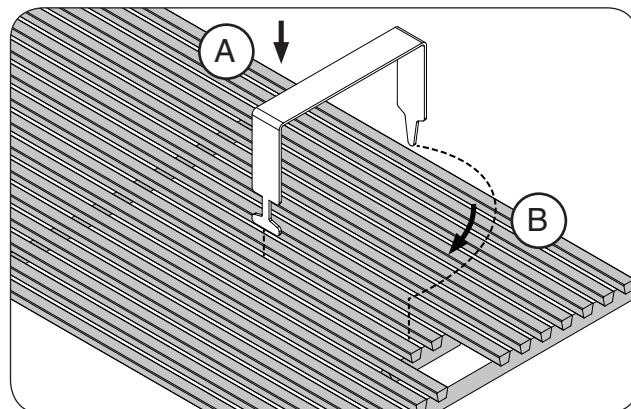

Fig. 22-1 Install cooking grids
1. With the prongs facing downward, insert the notched-end of the lifter between two grid rods, then rotate, as shown in Fig. 22-1, A & B.
2. Insert the rear pointed-end of the lifter between the same two rods (Fig. 22-1, B) and carefully lift the cooking grid and place onto the front and rear grid rests of the grill (see Fig. 22-2). Repeat for all other cooking grids.